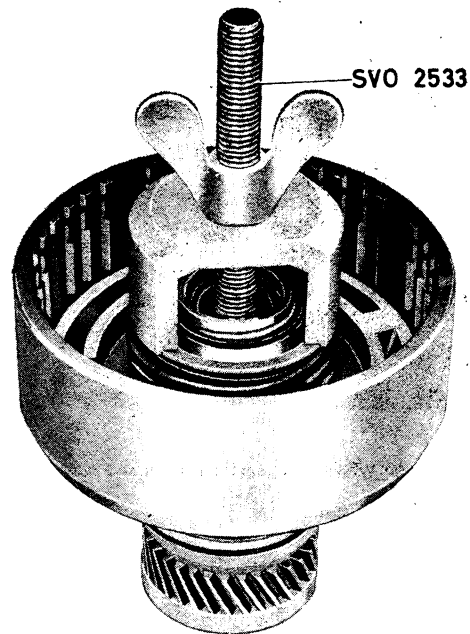

Fig. 4-83. Dismantling rear clutch
31. Place special tool SVO 2533 on the clutch as shown in Fig. 4-83. Tighten the wing nut until the snap ring releases. Remove the snap ring and screw back the wing nut. Remove the special tool, then the retainer and spring. Withdraw the piston. If necessary blow out the piston with compressed air.
13. Fit the spring, spring seat and snap spring using special tool SVO 2533, which is used when dismantling, see Fig. 4-83.